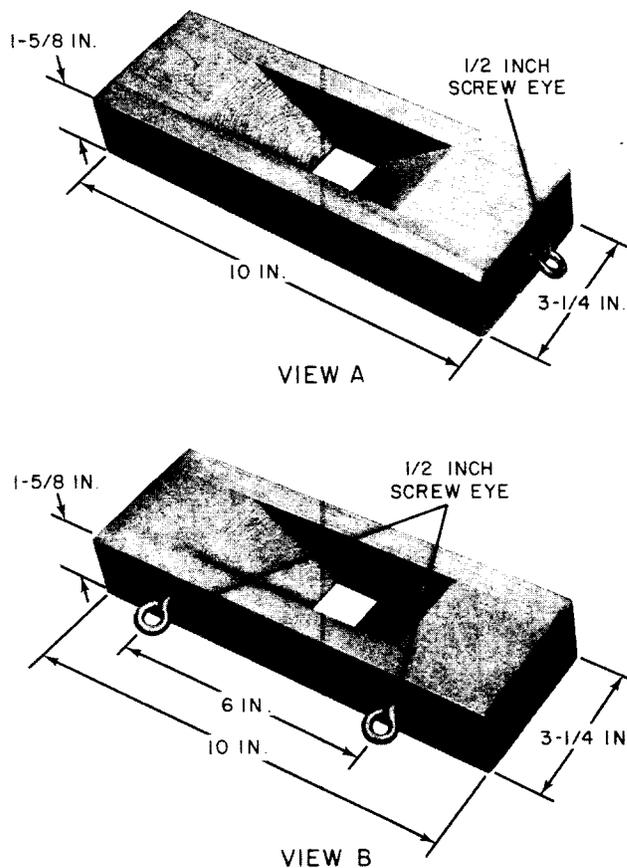

Fig. 2—Wood Ladder Block—ED-99543-70
Fig. 2. A V-shaped depression in the top accepts the wheel of the track supported rolling ladder. It is used to prevent movement of a rolling ladder not equipped with brakes.
4.03 The wooden block is shown in View A, Fig. 2. It comes equipped with a single screw eye so that it can be hung from a hook attached to the bottom center rear of the second step of a rolling ladder whenever the block is not used as shown in View A, Fig. 4.
4.04 As an alternate, the wood block can be modified with two screw eyes as shown in View B, Fig. 2, and when not in use can be attached to the bottom rear of the second step as shown in View B, Fig. 4.